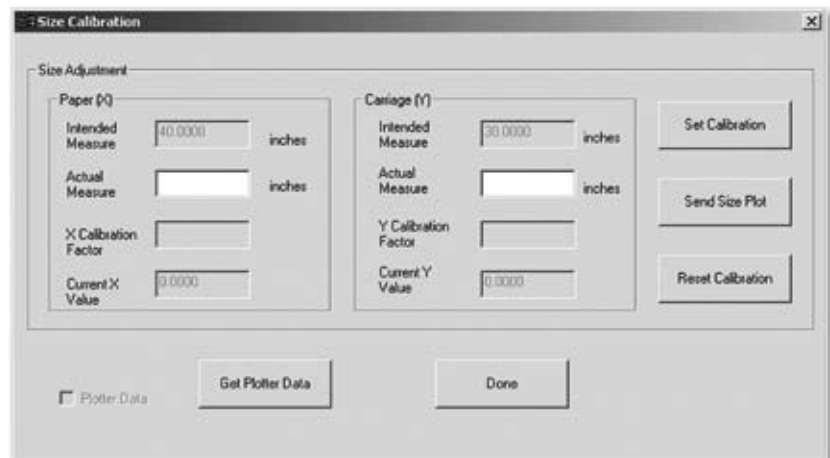

Figure 27. Calibration screen in **Control Center**.
2. Select **Tools>Size Calibration** from the **Menu Bar**. The window in *Figure 27* will appear:
2. The Control Center will send the calibration values to the printer and the new **Calibration Setting** will be displayed in the boxes in the window pictured in *Figure 27*.